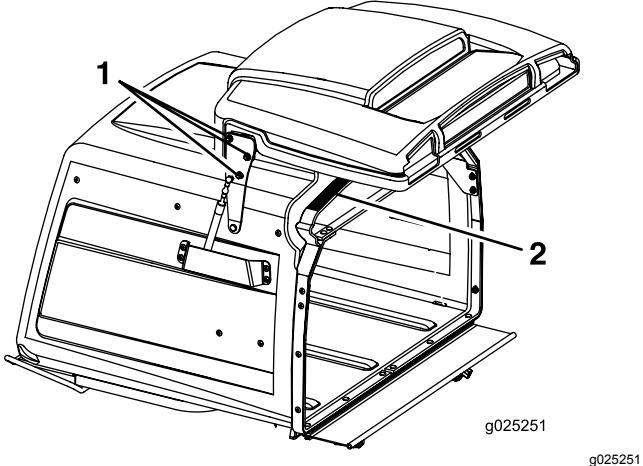

Figure 58
3. Loosen the 6 door hinge nuts (Figure 58).
4. Open the door and place a 3/8 inch (9.5 mm) rubber strip or 3/8 inch (9.5 mm) diameter hose between the hopper and the hopper door (Figure 58).